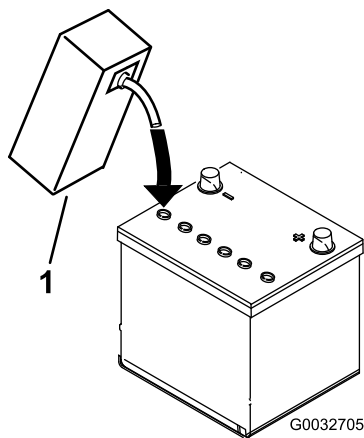

Figure 7
3. Carefully fill each cell with electrolyte until the plates are covered with about 6 mm (1/4 inch) of fluid (Figure 7).
4. Allow approximately 20 to 30 minutes for the electrolyte to soak into the plates. Fill as necessary to bring the electrolyte to within about 6 mm (1/4 inch) of the bottom of the fill well (Figure 7).